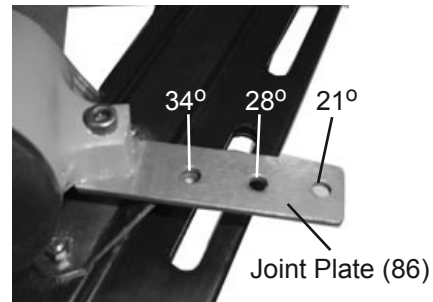

Figure 5
3. Move Magazine so desired hole on Joint Plate (86) lines up with the nut on Magazine. See **Figure 5**, above. Replace and tighten the Adjuster Knob.